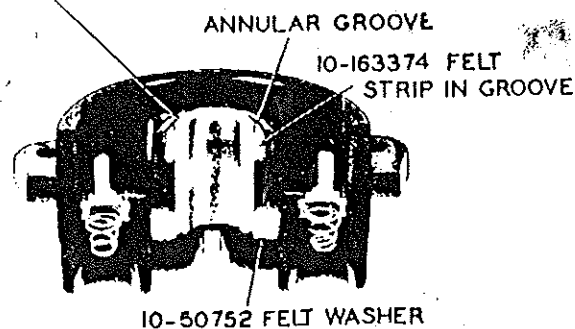

Figure 705. Cutaway View of Distributor Block
Current design Distributor Blocks (79) are made of brown polyester material and have part number and batch code molded into the surface. Older blocks made of phenolic (black) material or buna rubber (very dark brown, with letters "cc" molded into block) material may be used so long as they incorporate annular groove (see Figure 705) and pass tests outlined below. Polyester blocks supersede phenolic blocks and buna blocks on a use stock basis.
- A. Insert gear (72) into distributor block (79). Apply light hand pressure to first one side of gear, then the other. If any play can be felt as gear is "rocked" manually, block bushing is worn excessively. Replace block (79).